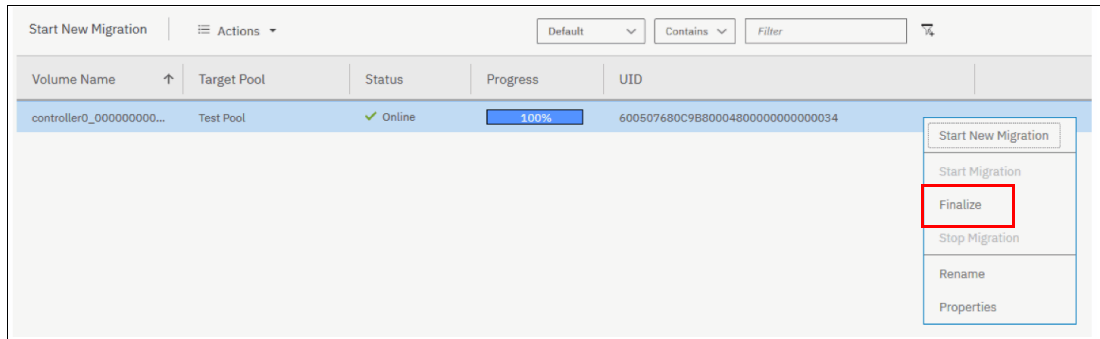

Figure 7-27 Finalize storage migration
2. Select **Actions** → **Finalize**, as shown in Figure 7-27. Alternatively, right-click the selected volumes and click **Finalize**.